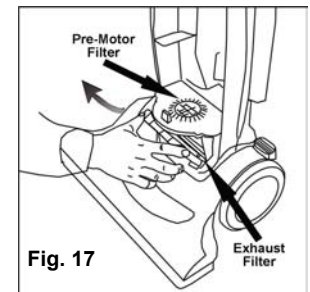

Fig. 17
3. Remove the exhaust filter out. (Fig. 17)